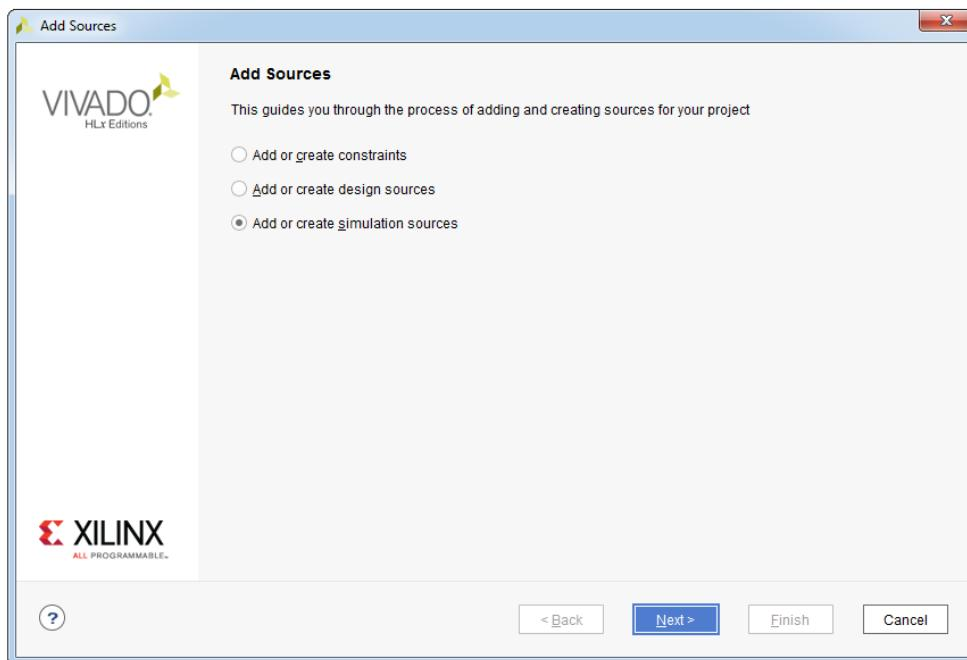

Figure 2.29: Add Sources dialog box - Add or create simulation sources option
9. In the **Add Sources** dialog box, select **Add or create simulation sources** option to add the simulation source files into the project, see Figure 2.29.